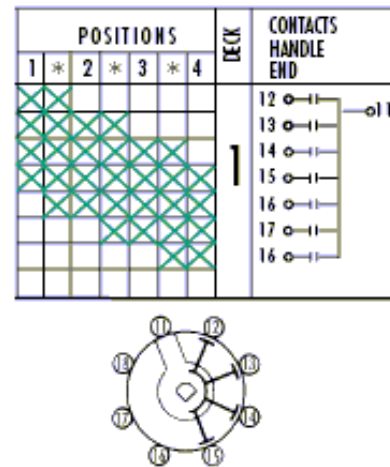

Fig.19 Cumulative tap switching with make-before-break action.
4. One pole per section; double-break switching (Fig.19).
7. Three pole per section with double break switching (Fig.19).